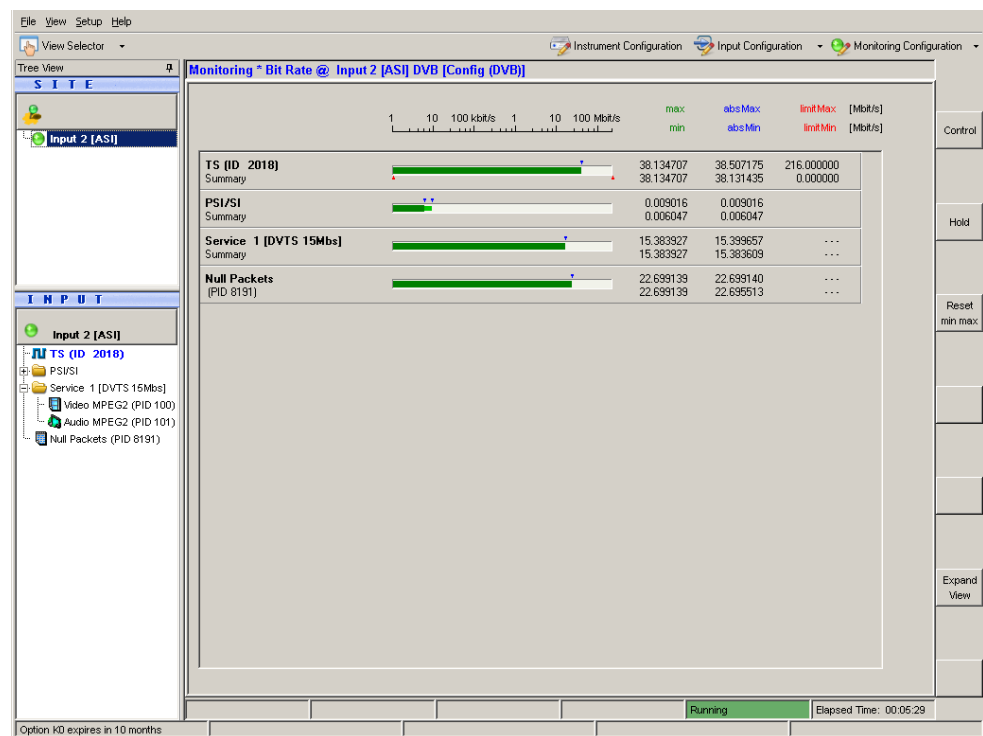

Figure 6-2: Monitoring view
6. In the "TS (ID XXXX)" line, "max/min" column, read the current net bit rate of the connected TS (in this example, Figure 6-2, XXXX = 2018).